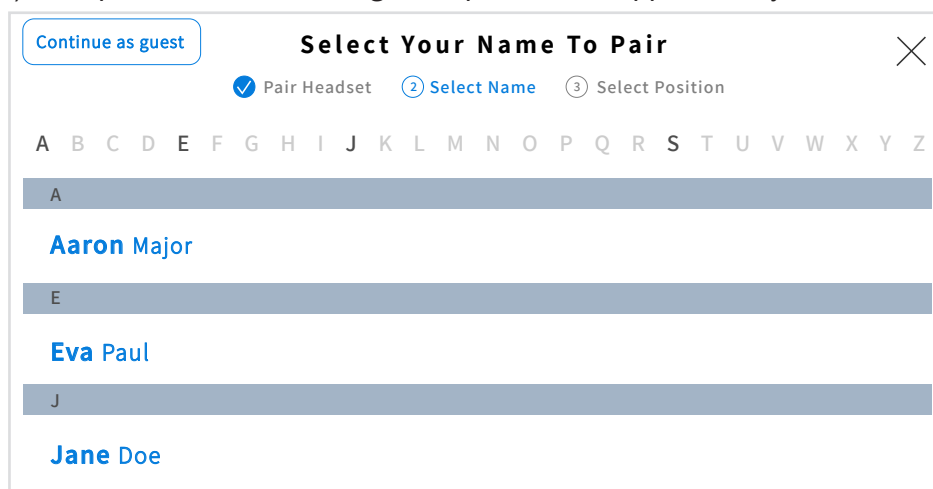

Fig. 1.23
- *** The group you are calling must be an active position in the restaurant and must have headset users enrolled in that group (see example in Fig. 1.23, which lists three active positions: Drive-Thru
If an existing Crew Profile exists, the **Select Your Name To Pair** dialog opens (see Fig. 1.23). Tap on your name if it already exists (names are listed in alphabetical order, so you may have to scroll down the list to find it), or tap on the **Continue as guest** option in the upper left if you don't have a profile.